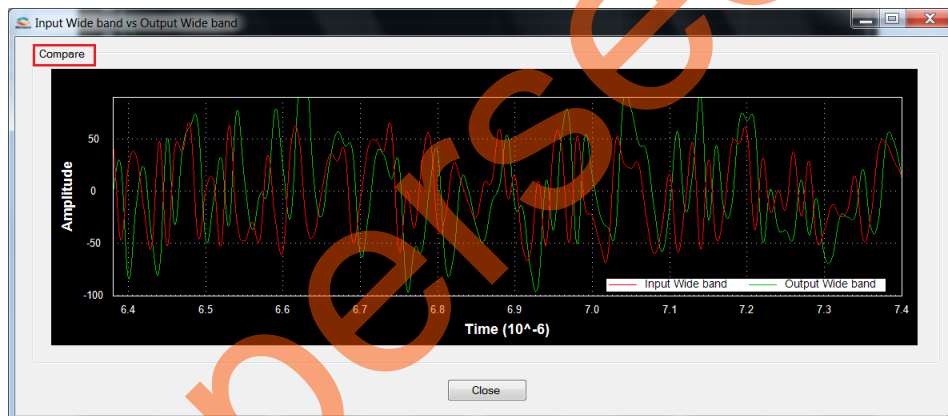

Figure 22 • Comparison of Input Wide Band and Output Wide Band
9. Compare the Error signal (output wide band signal) with the input wide band signal, refer to Figure 22. You can see that the narrow band interfering component is eliminated and the wide band signal is preserved in Error signal.